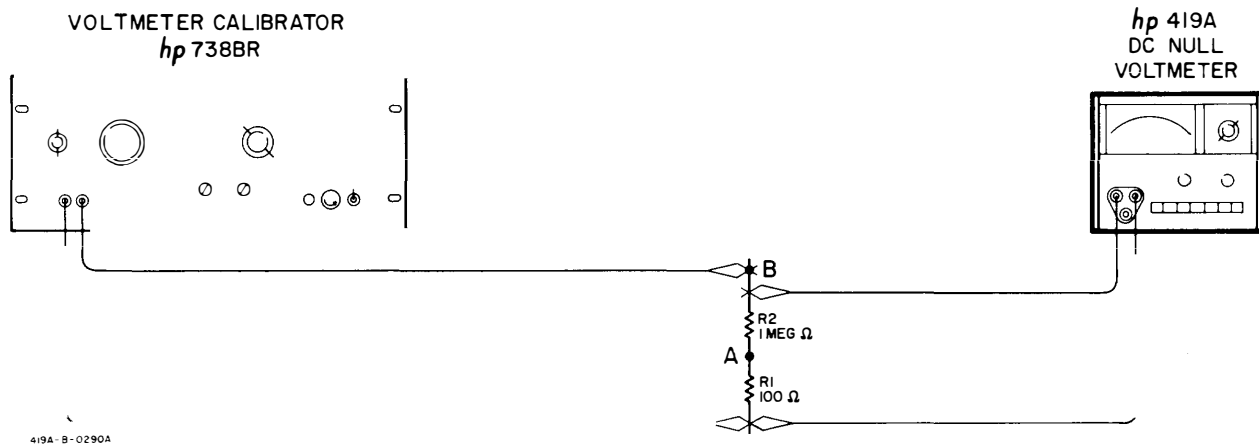

Figure 5-1. Voltmeter Accuracy Performance Test Setup
5-8. The voltmeter accuracy performance test setup is illustrated in Figure 5-1. A voltmeter calibrator (-hp- Model 738BR), a 100 Ω resistor (-hp- Part No. 0811-0398), and a 1MΩ resistor (-hp- Part No. 0811-0473) are required for this test.
- a. Connect test setup illustrated in Figure 5-1.
- Construct test setup illustrated in Figure 5-1; turn voltmeter calibrator dc output off and set for 30 mV output; connect 419A + INPUT terminal to Point A.